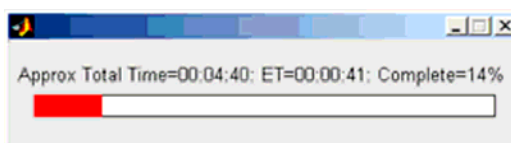

Figure 15: Status and Time Bar
- b. A time bar will appear, showing approximate total test time, elapsed time and percent complete, as shown in *Figure 15*.
The Pin 21 in row C is connected with eight RF cables. The system supplies the preamp bias voltage through Pin C21 and RF cables to the coil. Referring to *Figure 15*, find Pin 21 in Row C. Use a DVM to check resistance between Pin C21 and the central pin of the SMB connector at the end of each RF cable (see *Figure 28*). The resistance should be $6.0 \pm 0.4\Omega$. If any resistance reading is not within this range, replace the cable assembly.